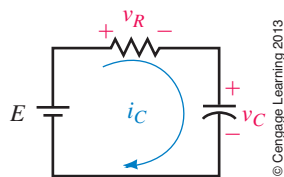

FIGURE 11–8 Circuit for the charging case. Capacitor is initially uncharged.
2. Plot the computed values on graph paper and verify that they yield curves that look like those shown in Figure 11–2(b) and (c).
3. Assume that the discharge portion of the curves of Figure 11–7 begin at $t = 10$ ms. What are $i_C(10 \text{ ms}^-)$ and $i_C(10 \text{ ms}^+)$? What is the statement of continuity for v_C at $t = 10$ ms?
We will now develop equations for voltages and current during charging. Consider Figure 11–8. Kirchhoff's voltage law (KVL) yields